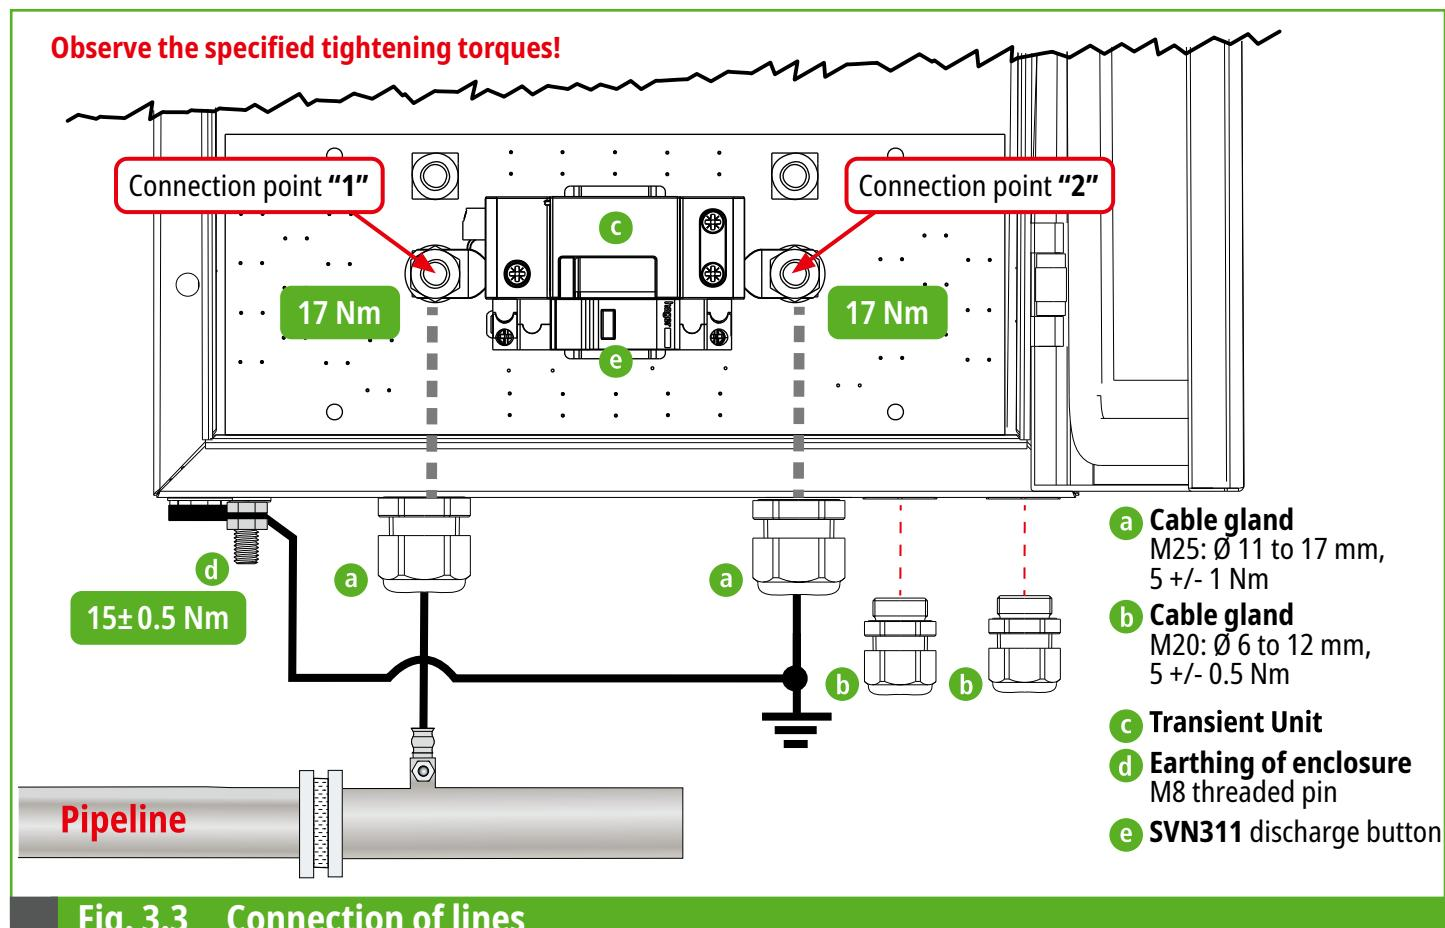

Fig. 3.3 Connection of lines
- ➲ **Pipeline:** The connecting line from the pipeline is connected at connection point "1" (see Fig. 3.3).
- ➲ **Connection of the earth electrode:** The connecting line from the earth electrode is connected at connection point "2 (⊖)" (see Fig. 3.3).
- ➲ **Earthing of the enclosure / protection potential:** Connection is made via the **M8** threaded pin **d**. The connecting line must have a minimum cross-sectional area of 16 mm² Cu. A cable lug connection of 16 mm² is recommended (see Fig. 3.3).
- ☞ **Accessories:** The two **M20 cable glands** **b** (outer cable diameter: Ø 6 to 12 mm) are loosely supplied with the enclosure. They are intended for inserting two signal lines (see Fig. 3.3, page 9).